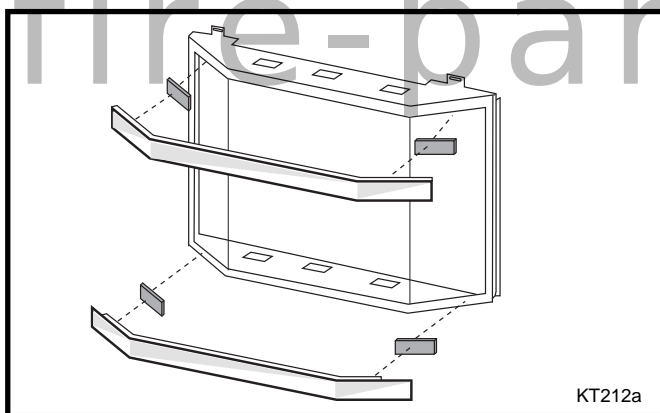

Fig. 36 Attach magnets and brass trim to the steel frame.
7. Install brass trim to the steel frame as shown in Figure 36.